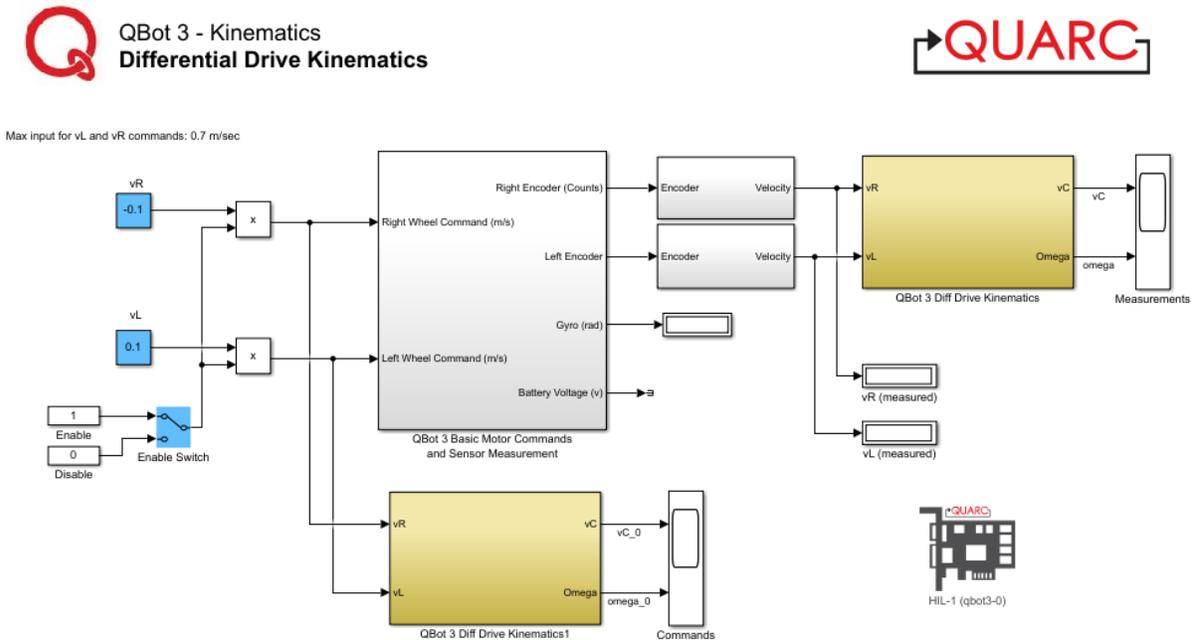

Figure 2.1: Snapshot of the controller model `QBot3_Diff_Drive_Kinematics.mdl`
The Simulink model for this exercise is `QBot3_Diff_Drive_Kinematics.mdl` the snapshot of which shown in Figure 2.1.
1. Wait 5 seconds until the QBot 3 has fully initialized, and then enable the movement of the robot using the manual switch shown in Figure 2.1.